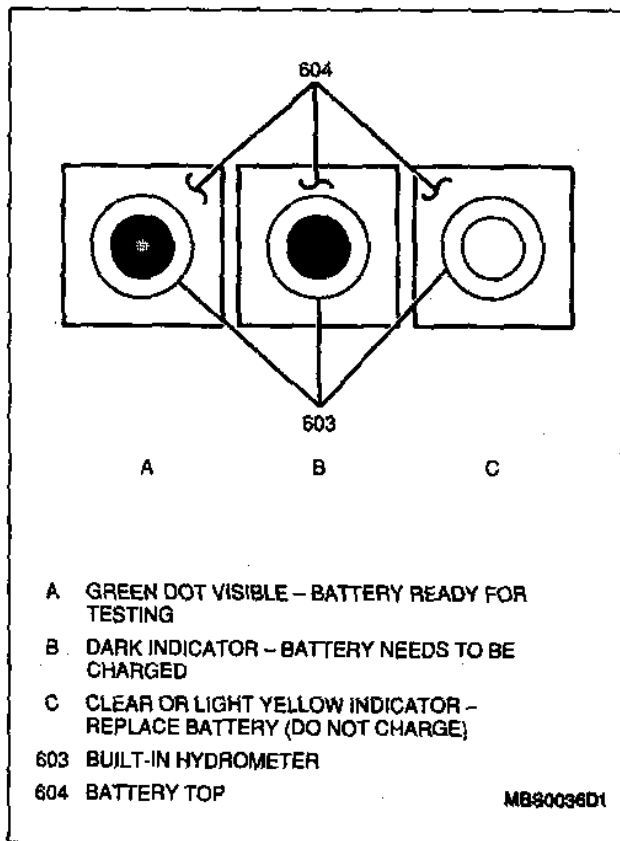

Figure 3—Built-In Hydrometer Indications
Under normal operation, two indications can be observed (Figure 3):
Occasionally, a third condition may appear (Figure 3):
- If a green dot is visible (Figure 3), proceed to Step 3.
- If the hydrometer is dark (no green dot visible—Figure 3), charge the battery and proceed to Step 3. Refer to "Battery Charging" later in this section.
- If the hydrometer is clear or has a light yellow color (Figure 3), the battery must be replaced. Refer to "Built-In Hydrometer" earlier in this section for additional details.